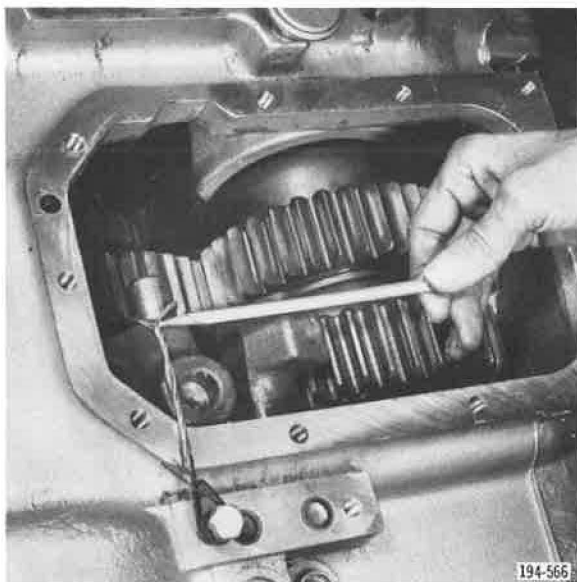

Figure 43. Wire Holding Shift Fork
43. Secure Lo/Hi shift fork in position, using a piece of wire. This will prevent it from sliding forward. See Figure 43.